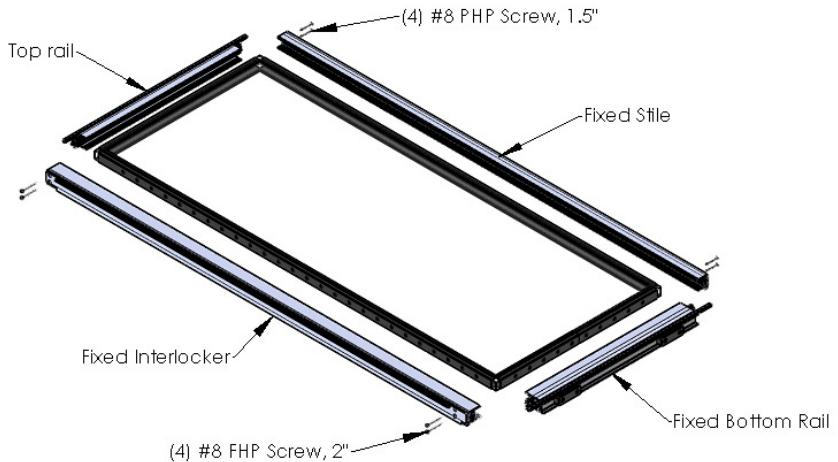

Figure 8:
- Secure the stiles to the top and bottom rail with (4) #8 x 2" flat head screws for the interlocker and (4) #8 x 1-1/2" pan head screws for lead stile (Figures 8).